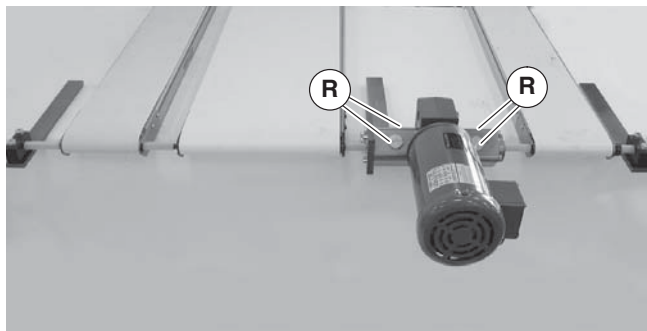

Figure 31
1. Remove inspection plugs (Figure 31, item R).